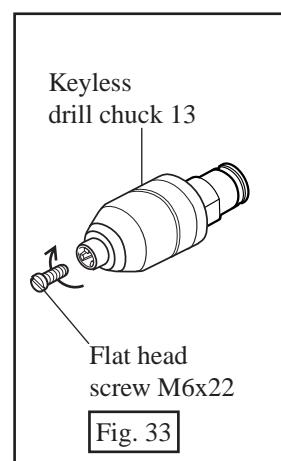

Fig. 33
- (6) Remove flat head screw M6x22 by turning it clockwise. See Fig. 33.